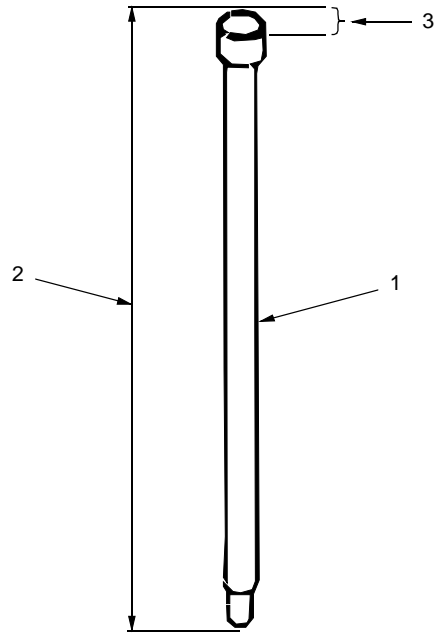

Figure 16. Pushrod Measurement
**INSTALL CYLINDER HEAD** (Refer to Figures 16, 17, 18 and 19.)
Refer to Figure 16.